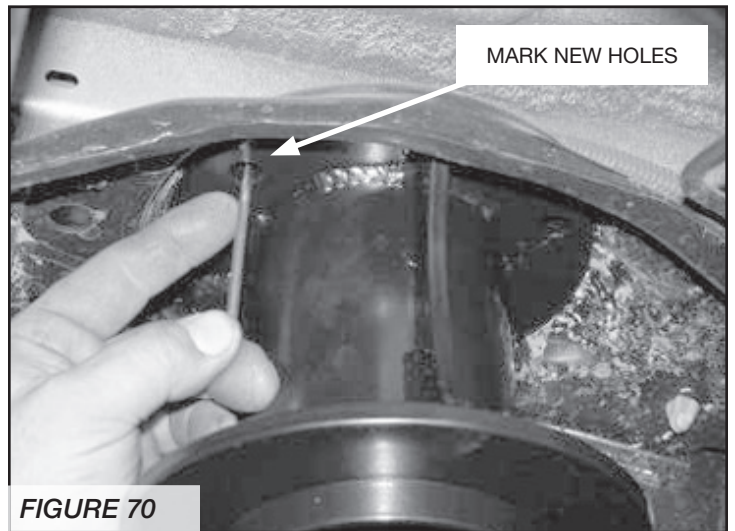

**FIGURE 68**
46. Remove the driver upper link and install an assembled Fabtech link with the gusset facing upward in the frame pocket and down at the axle mount with the stock hardware. Repeat on the passenger upper link. **SEE FIGURE 68**